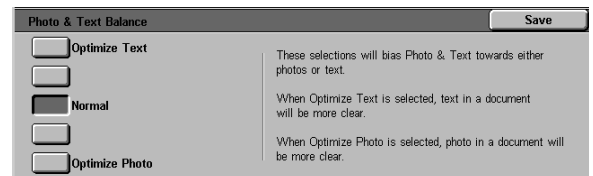

Figure 56: Text & Photo settings
- Touch the box that indicates the appropriate image quality level setting for Text & Photo Balance, as illustrated in Figure 56.